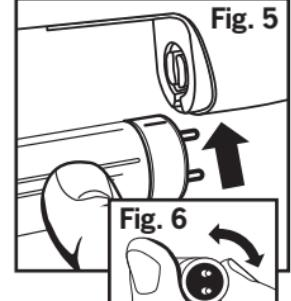

Fig. 6
- 5 Install the bulbs into the sockets by aligning the pins of the bulb with the slot in the sockets (**Fig. 5**). Using your thumbs and forefinger, press the metal ends of the bulb socket and roll the bulb forward until it rotates 90 degrees inside the socket, making contact between the bulb pins and the socket contacts (**Fig. 6**).